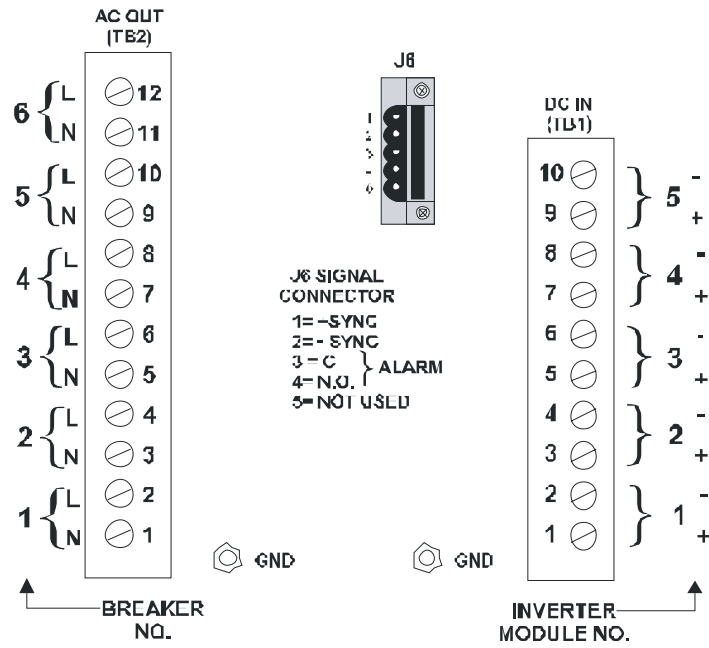

Figure 4 - Rear Input, Output and Signal Connections
10.1 Input Voltage. This inverter system operates off a nominal 48VDC input source which may be a battery or other DC source. The input voltage range is 42 to 56VDC. Input connections are on the back of the system to TB1 on the right side. See Figure 4. The screw terminals have side entry The DC inputs are both floating.
10.2 Output Voltage. The output voltage for an IX12.5 is 115 or 230VAC at full load, 120 or 240VAC at no load. The outputs on the back of the unit at TB2 are also shown in Figure 4. The TB2 connections have side entry. Frequency is 50 or 60Hz, ±0.1%. The output voltage has total harmonic distortion of less than 2.0%. The load current crest factor is 2.8 to 1, and surge capability is up to 300%. The output will drive reactive loads with up to ±90° phase angle. The output goes to six circuit breaker protected load circuits.
- 10.6 Grounding.** For the suffix E models of both 115VAC and 230VAC inverter modules INV2500-HS, the AC neutral output is floating. For both models of the shelf, the AC neutral output is floating. The neutral output of the Gravitas IX12.5 must be appropriately connected to safety ground. For the two INV2500-HS 115VAC modules which are not suffix E, the AC neutral output is internally connected to chassis ground. Refer to the product tables in paragraph 2.2. The shelf ground terminals are two 10-32 studs on the bottom right and left sides of the rear of the shelf. Shelf ground must be connected to system safety ground. See Figure 4.
- 10.8 Relay Alarm Contacts.** These contacts at pins 3 and 4 of J6 are normally open (N.O.) for normal operation of the system. See Figure 4 for connections. A mating connector (with screw connections) to J6 is provided with the shelf. If any of the inverter modules fail, the contacts N.O. and C close. The failed module can be ascertained from the LED indicators on the front panel. There is no connection to pin 5.
- 12.3 Connect the input battery or other DC source to the DC + and - input terminals of the shelf for inverter module no. 1 (terminals 1 and 2 for + and - respectively). See Figure 4. Connect the inverter system ground (10-32 studs) to the system ground. Make sure that the correct polarity is used and make sure the connections are clean and firm.
- 12.4 To power up the inverter module, turn the DC input circuit breaker (top) on by moving the toggle to the right position. The fans and Input OK and Sync OK LEDs should come on, shortly followed by the Output OK LED. After the Output OK LED is on, turn on the AC output breaker (bottom) by moving the toggle to the right position. Turn AC output breaker no. 1 on. Check the output AC voltage across load terminals 1 and 2 (see Fig. 4) with a digital AC voltmeter. The voltage should be approximately 120 or 240VAC.